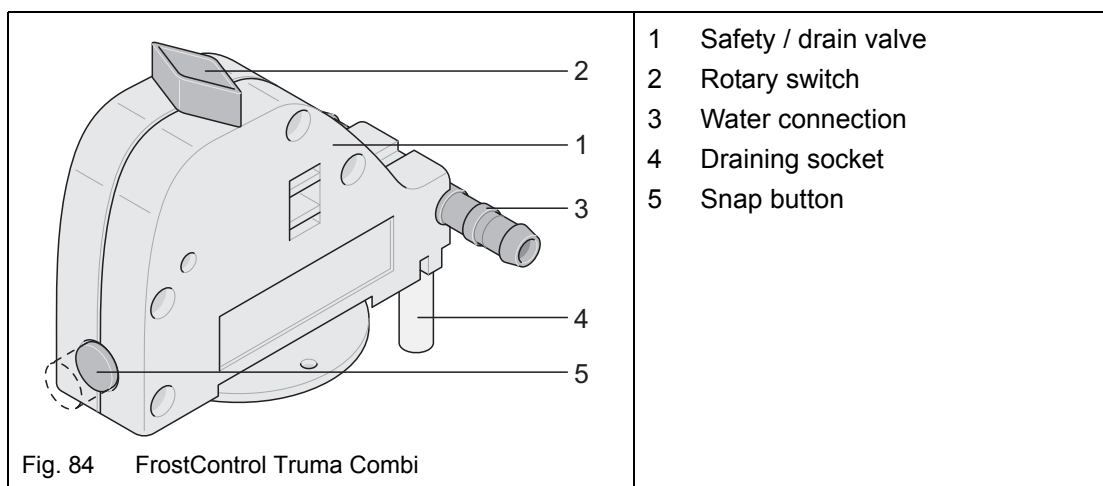

Fig. 84 FrostControl Truma Combi
"FrostControl" (Fig. 84/1) is a currentless safety/drain valve. When there is a danger of frost, it automatically drains the contents of the boiler through a draining socket (Fig. 84/4). If excessive pressure is present in the system, pressure will be automatically intermittently equalised through the pressure relief valve.
- Check if the rotary switch (Fig. 84/2) is set to "Operation" (parallel to the water connection (Fig. 84/3) and is engaged.
It can be manually closed with the snap button (Fig. 84/5) (pressed) and then the boiler filled only when the temperature at the drain valve is above approx. 7 °C.
- Set the heater to summer or winter mode (Chapter 13.1.3 or 13.1.4) and set the rotary switch (Fig. 84/2) of the valve (Fig. 84/1) to "Operation". The rotary switch must engage.
- Press the snap button (Fig. 84/5) into the valve until it engages ("closed" position).
- Always keep the drainage pipe (Fig. 84/4) of the safety / drain valve free from contamination (slush, ice, leaves, etc.).
When the temperature at the drain valve is below approx. 3 °C, the drain valve will open automatically, the snap button (Fig. 84/5) springs out and the supply of water of the motorhome drains out through the drainage pipe (Fig. 84/4).
- ➔ Turn the rotary switch (Fig. 84/2) 180° until it engages.
The snap button (Fig. 84/5) springs out and the water drains out through the draining socket (Fig. 84/4).
- ➔ Turn the rotary switch of the drain valve 90° until it engages (Fig. 84/2).